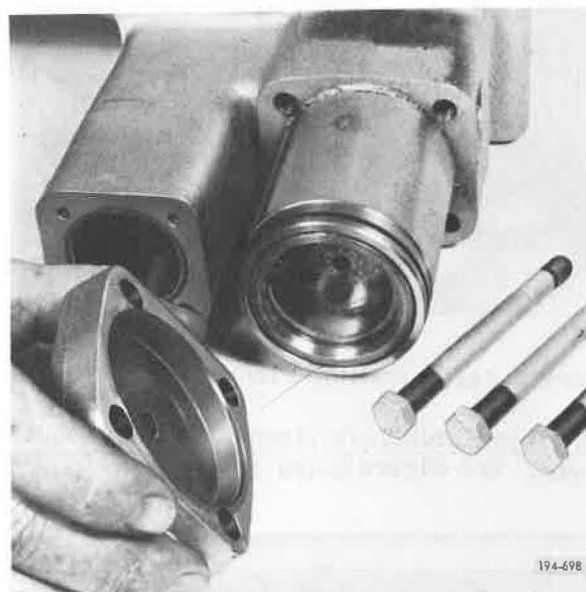

Figure 5-439. Installing Cover
14. Install Lo/Direct shift cover onto Lo/Direct shift cylinder. See Figure 5-439.